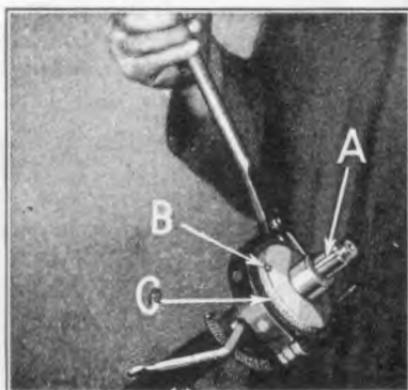

Fig. 387
- 748 Remove steering gear drive pinion key (See "A" Fig. 387) by tapping it out of keyway in shaft with a small hammer and drift.
- 770 Pack internal gear case with grease and install steering gear cover on case, drawing the cover down tightly on internal gear case with a babbitt lined wrench. Run down the steering gear cover screw through cover and into case (See Fig. 387).